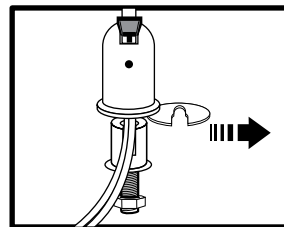

Figure 4
1. Loosen brass stem-nut on faucet, remove metal "C" disc (Figure 4).